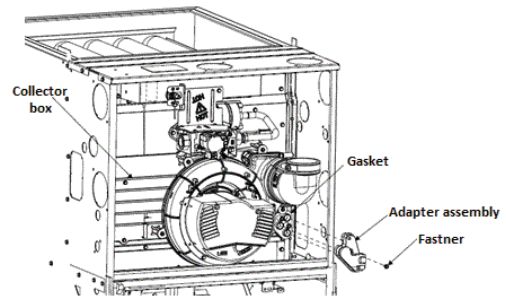

Fig. 14 – Upflow Example of Trap Adapter Installation
1. Install trap adapter to the collector box using provided machine screw, see Fig. 14.
Install trap adapter to the collector box using provided machine screw, see Fig. 14.